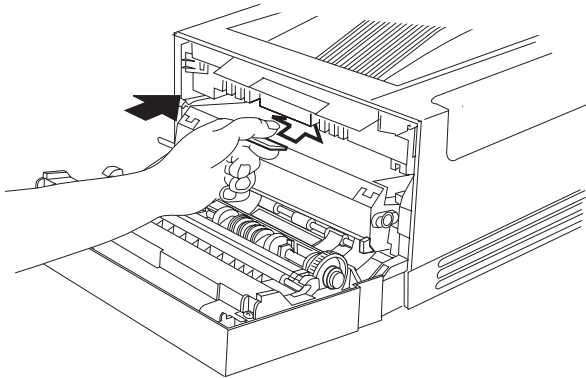

Fig. 6.6 *Inserting Cartridge into Printer*
3. Hold the cartridge so the green arrow points toward the printer. Line up the green arrow on the cartridge with the green arrow inside the printer (the cartridge should be angled down). Gently push the cartridge into the printer until it fits firmly (fig. 6.6). Close the paper path door.